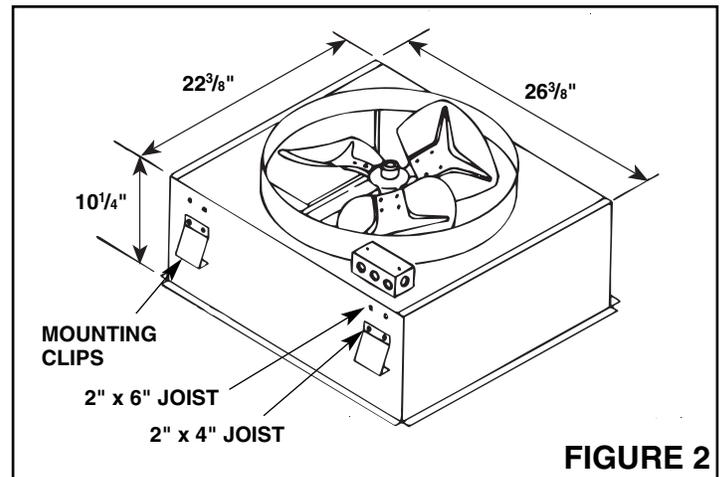

FIGURE 2
4. Refer to Figure 2. Cutout in ceiling must be directly in line with the inside face of joists.
5. Refer to Figure 2. The mounting clips on this unit are mounted for 2" x 4" construction. After determining size of joist, relocate the mounting clips if necessary and reassemble securely.